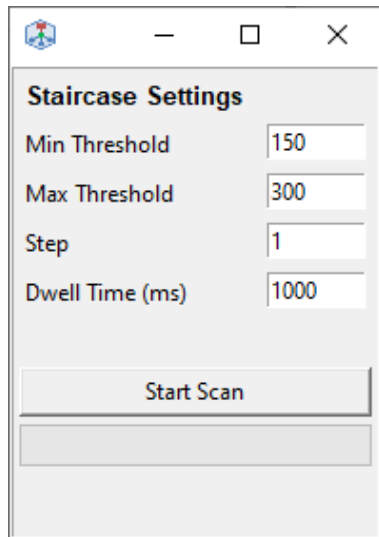

Fig. 10.41: "Staircase Settings" window.
3. Press the "Staircase" button in the Icon bar of the Janus window . A window similar to that in Fig. 10.41 will be opened. The values of the following parameters should be set by the user:
- "Dwell Time (ms)": Set the value of the time interval during which the TD self-triggers have to be counted. An example of the settings for a SiPM staircase acquisition are shown in Fig. 10.41.